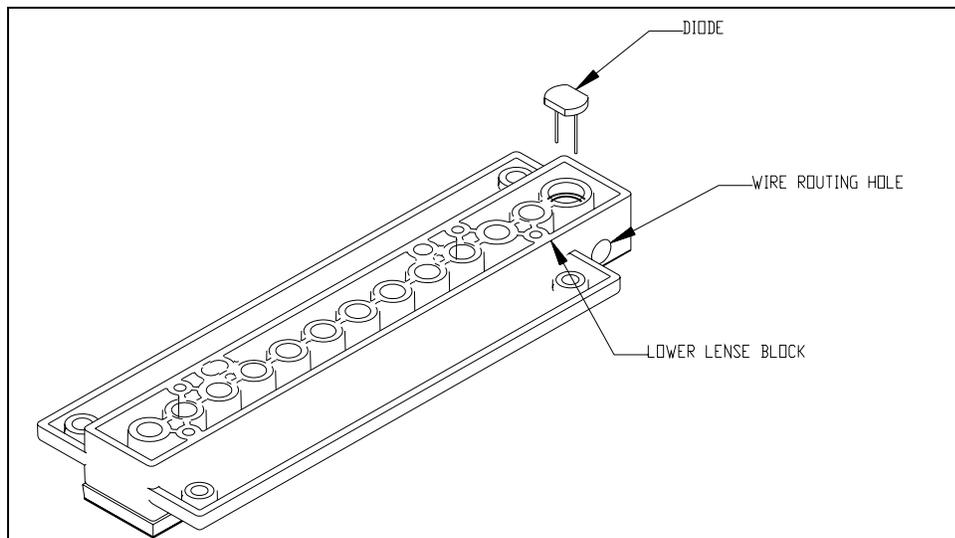

Figure 11-41 Rewiring Block
- 2 Place the lower lens stop on top of the lens strip. Align all the parts by inserting an AMFIX004 alignment dowel in the alignment hole and an AMFIX004 alignment dowel in the alignment slot (Figure 11-41).
- 4 Route the wires for the reference photodiode in the lower optics block (Figure 11-41).